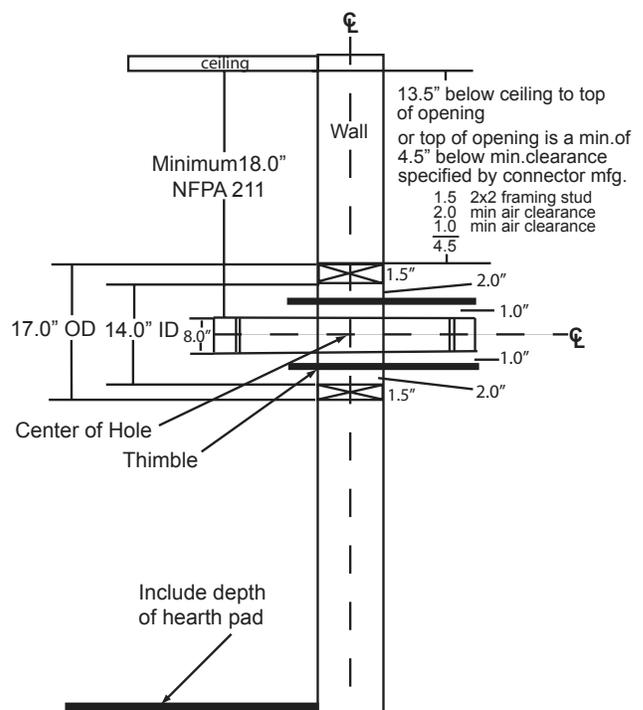

Figure 18.2
- Top of wall opening is a minimum of 13-1/2 inches (343mm) from ceiling or 4-1/2 inches (114mm) below minimum clearance specified by chimney connector manufacturer. NFPA 211 minimum vertical clearance of 18 inches (457mm) from chimney connector and ceiling or minimum recommended by chimney connector manufacturer (**Figure 18.2**).
1. Open inside wall at proper height for the chimney connector to entry the masonry chimney (**Figure 18.2**).
3. Construct a 17 inch x 17 inch (432mm x 432mm) outside dimension frame from 2 x 2 framing lumber to fit into wall opening. Inside opening of frame should be no less than 14 inch x 14 inch (356mm x 356mm) (**Figure 18.2**).